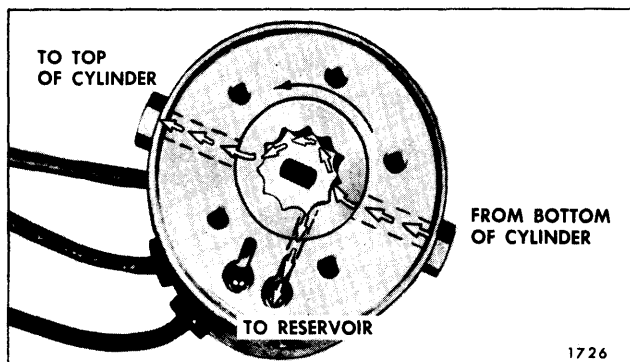

Fig. 13-62—Operation of Pump to Lower Top
2. **Lowering the Top.** When the green motor lead is energized the motor drive shaft turns the rotors counterclockwise as indicated by the large arrow in Figure 13-62. The action of the pump rotors forces the fluid under pressure to the top of each cylinder. This action causes the fluid below the piston in each cylinder to be forced into the pump which recirculates the fluid to the top of each cylinder. The surplus hydraulic fluid due to piston rod displacement flows into the reservoir.